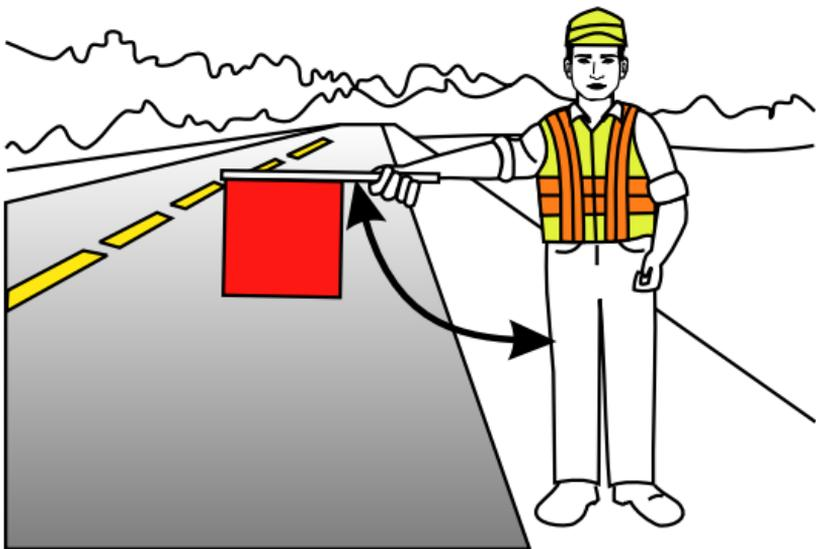

Figure 13
2. Slowly wave the flag in a sweeping motion from the ground to shoulder height and back again. Do not raise your arm above the horizontal position (see Figure 13).